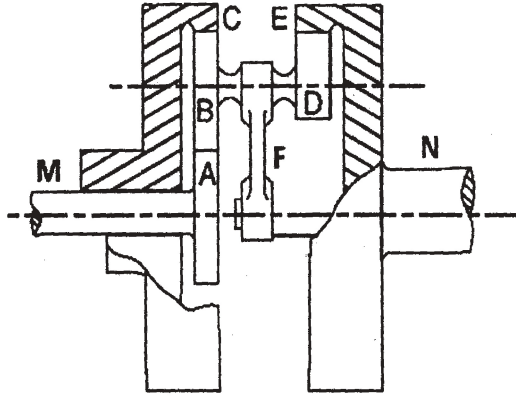

Fig. 1 OR
- b) In the epicyclic gear train shown in Fig. 1, the driving wheel A has 14 teeth and the fixed annular wheel C (internal) has 100 teeth. The number of teeth on wheels E and D are 96 and 40 respectively. The wheels are of the same pitch. Wheel A rotates at 1200 rpm, find the speed and direction of wheel C, F is the arm. [10]